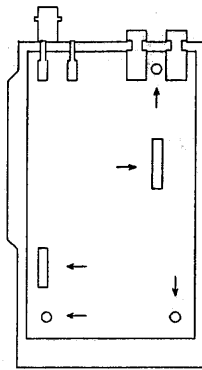

FIGURE 2
4. Disconnect the 2 flex cables and remove the 3 screws from the IF unit (Figure 2).